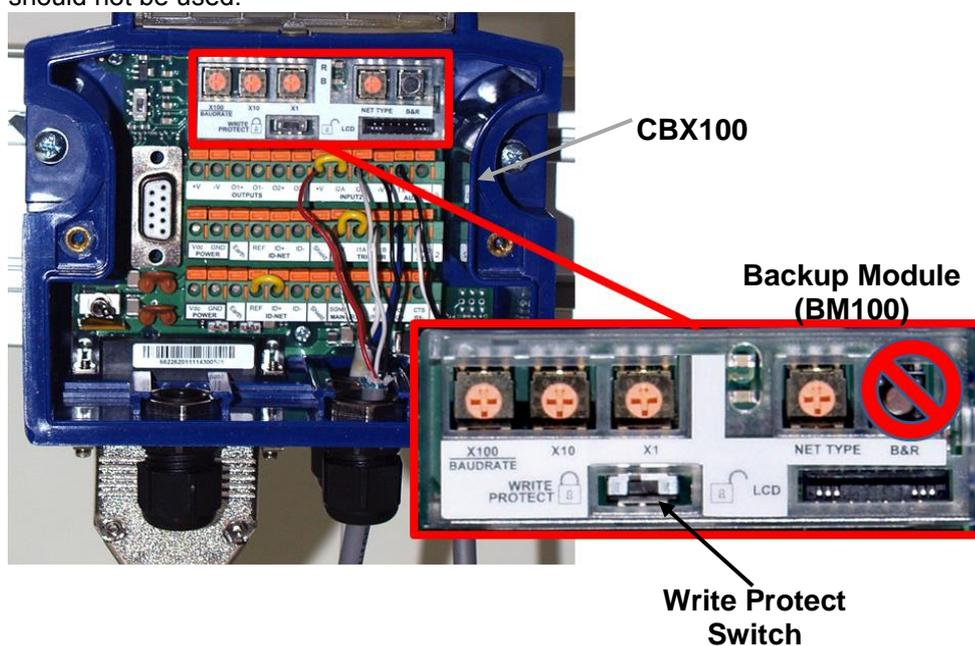

Figure 69: CBX100 with BM100 backup module installed
1. Make sure the BM100 write protect switch is in the unlocked position (see *Figure 69*).
4. Once parameters have been saved, you can protect the parameters by placing the backup module's write protect switch in the lock position. See *Figure 69*.